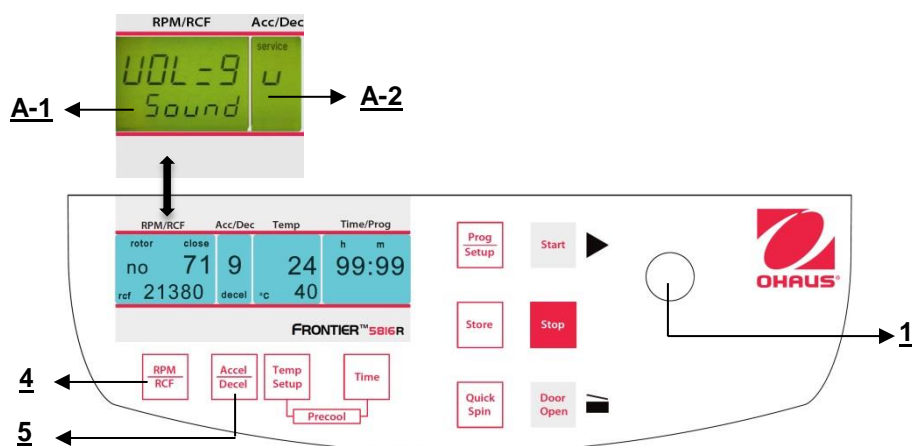

Figure 33
Proceed as described under point 4.1.1 to enter this program mode and then press the key **"Accel/Decel"** (5). In the display **"Acc/Dec"** (A-2) the word **"Service"** flashes. Now select the letter **"U"** with the adjusting knob (1). As a result, in the display **"RPM | RCF"** (A-1) the words **"Vol=0- 9/Sound"** appear. After pressing the key **"RPM | RCF"** (4), you can adjust the desired volume between 0 (low) and 9 (loud) with the adjusting knob (1) (See figure 33).